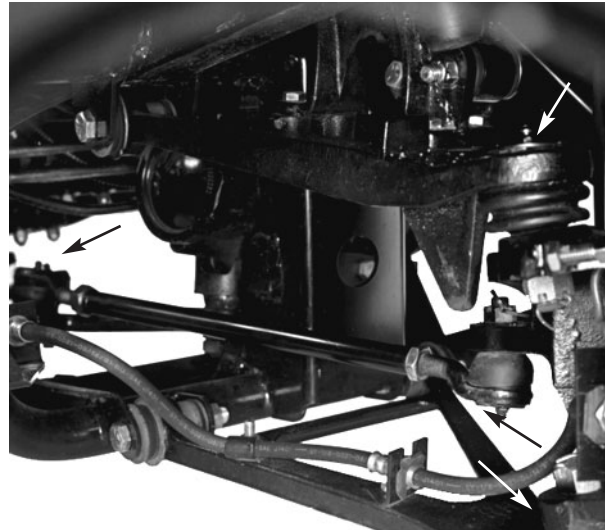

Figure 26
Greasing Bearings And Bushings (Fig. 26–32)
The grease fitting locations and quantities are: Tie rod ends (4) (Fig. 26), Front ball joints (4) (Fig. 26), Rear drive shafts (18) (Fig. 27) Front pivot bushings (2) (Fig. 28); Mid drive shaft -4 wd only (3) (Fig. 29); Pedal Pivots (4) (Fig. 30); Steering shaft (1) (Fig. 31) and Accelerator Arm (1) (Fig. 32).